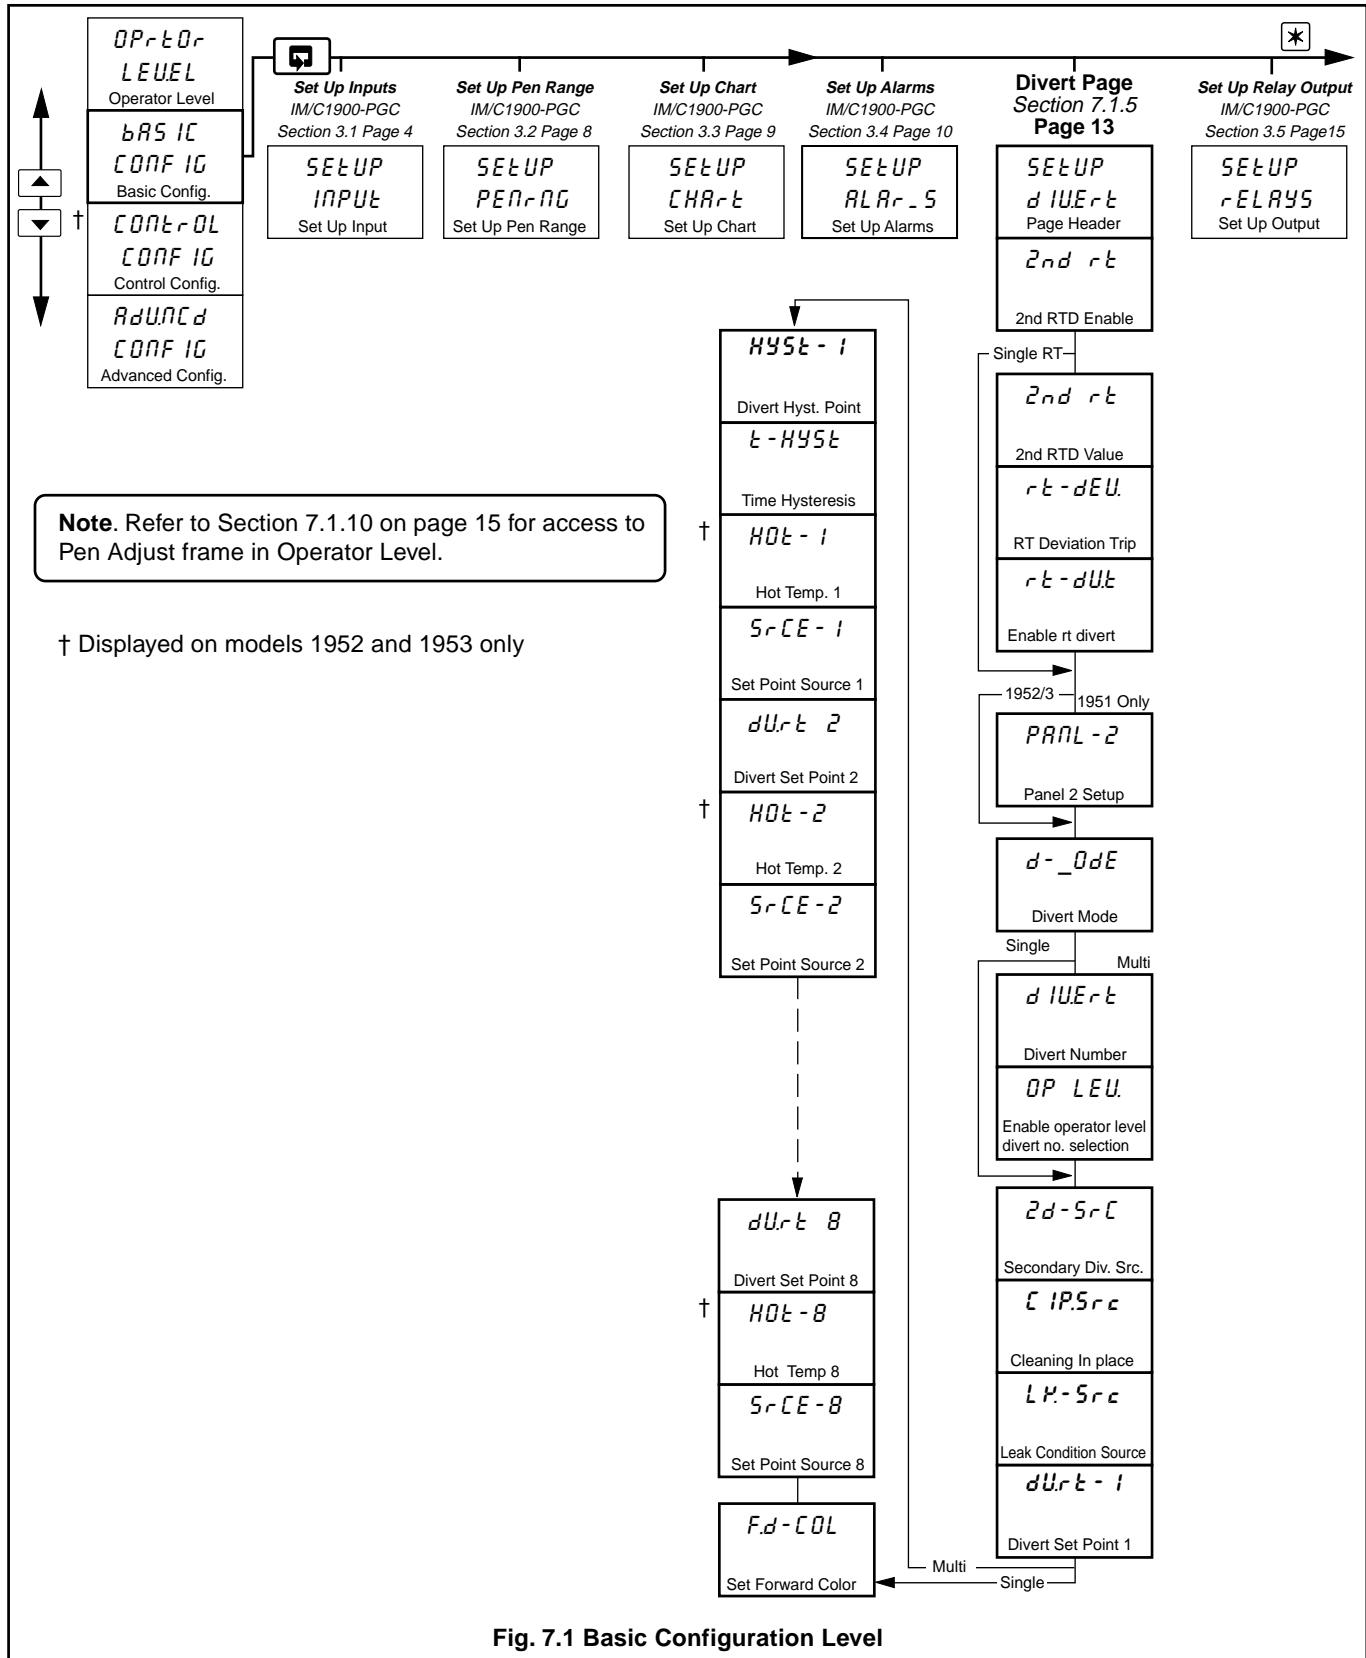

Fig. 7.1 Basic Configuration Level
7.1 Basic Configuration Level – Fig. 7.1
An additional (Divert) page is also included in this level as shown in Fig. 7.1.